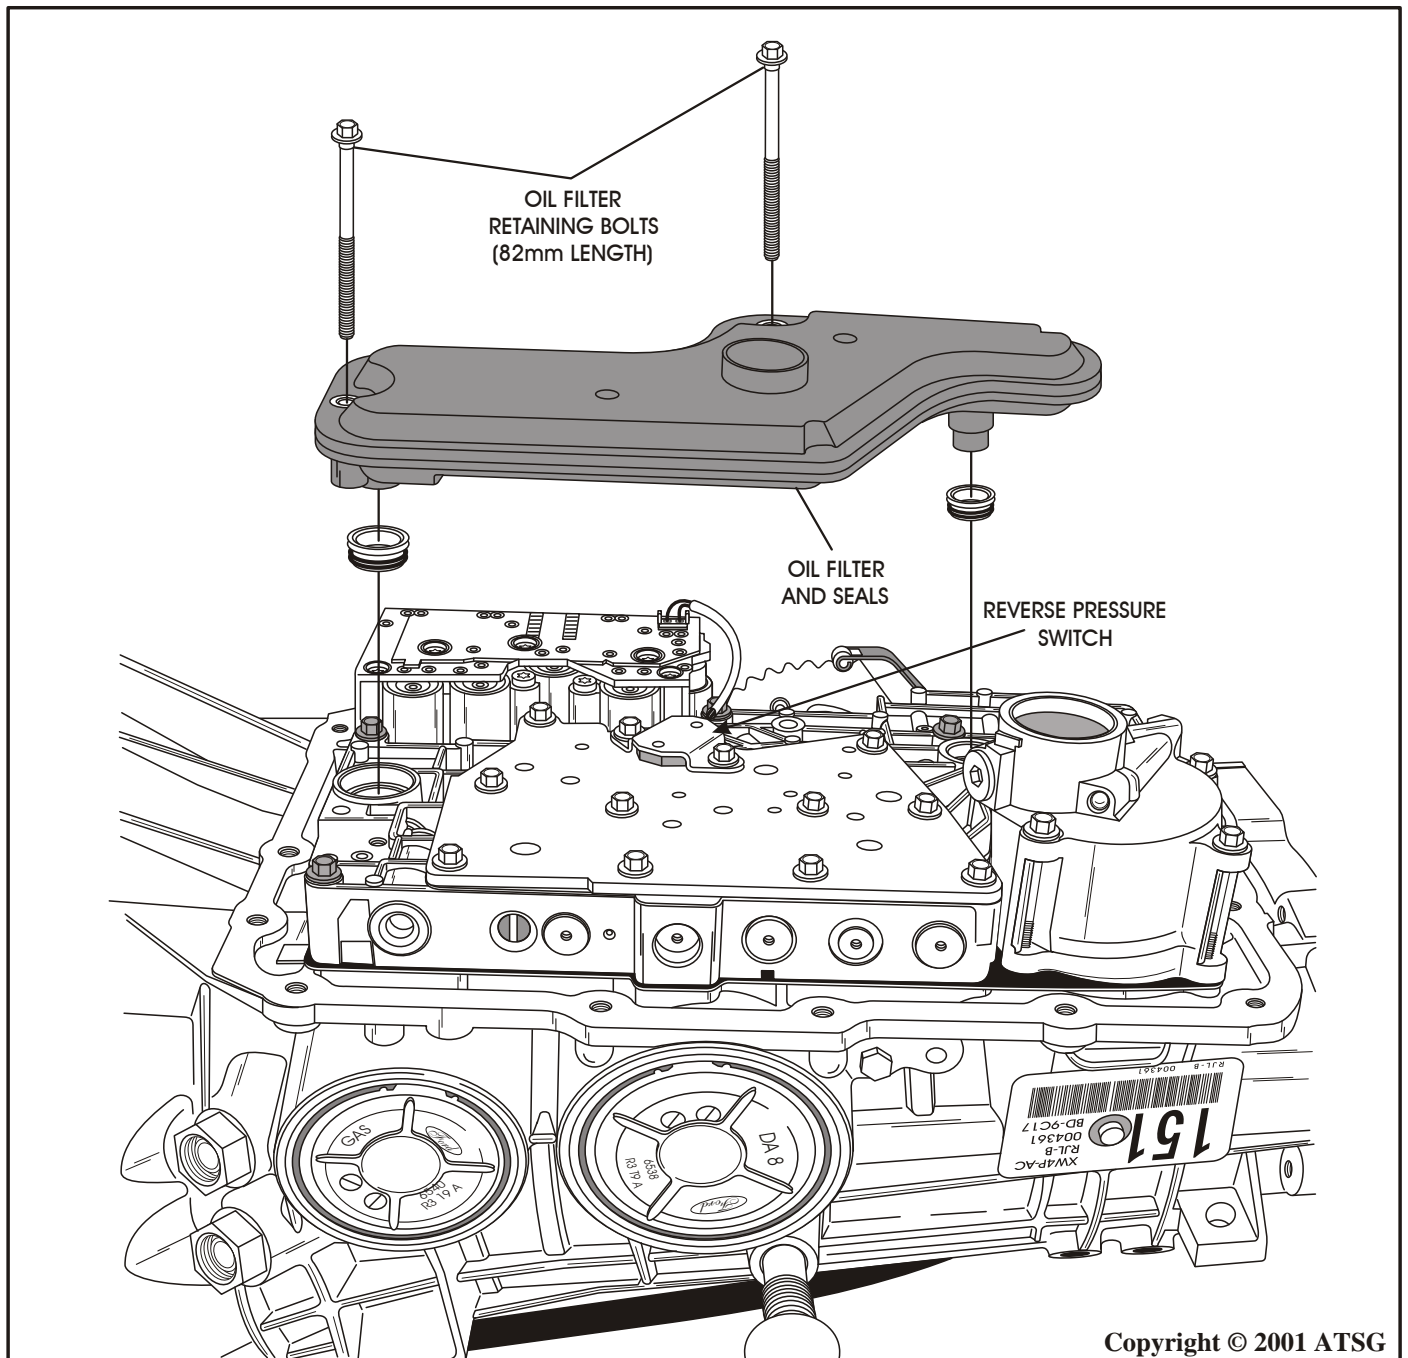

Figure 29
16. Remove the two filter retaining bolts using an 8mm socket as shown in Figure 29.
17. Discard the oil filter and seals (See Figure 29).